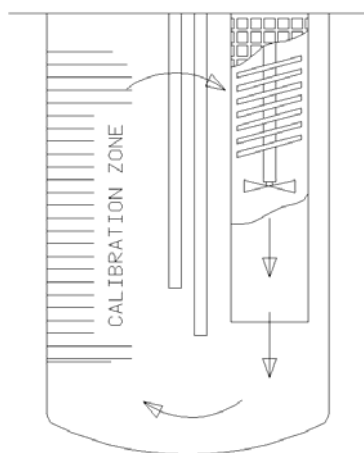

Fig.1
- Don't immerse the probe up to the bottom of the bath; the best calibration area is: 3-4cm far from the bottom and from the top of the liquid (fig. 1).